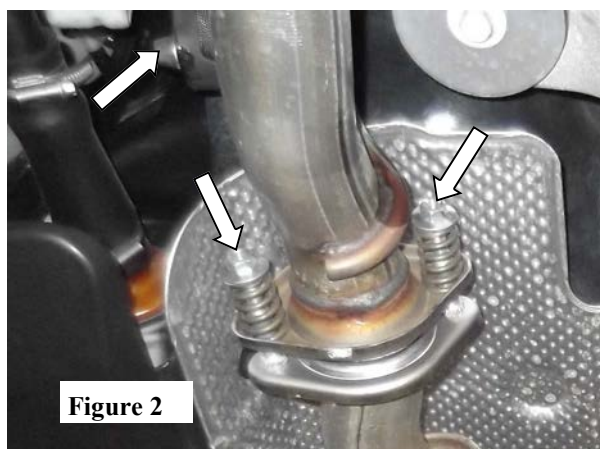

Figure 2
2. Unbolt the flange located on the driver side of vehicle behind the front muffler assembly and remove hanger from the rubber isolator. (See Fig. 2)